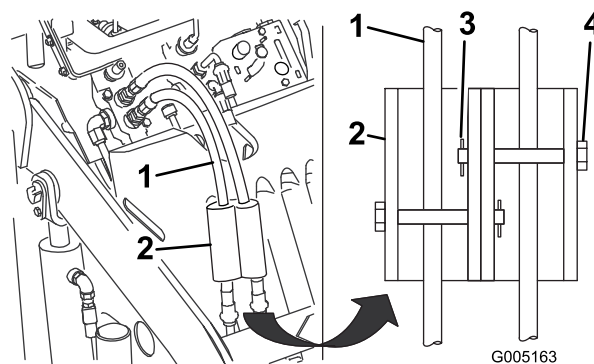

Figure 12
7. Install the cylinder locks over the hydraulic hoses and secure them with the clevis pins and cotter pins (Figure 12).